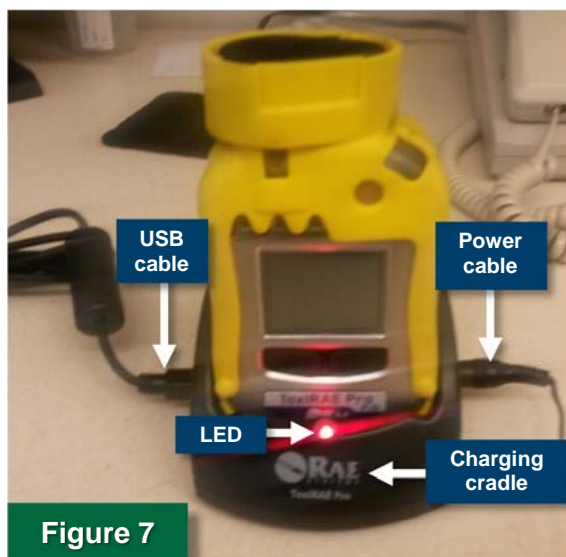

Figure 7
1. Plug the charging cradle into power using the included power cable and into a computer using the included mini-USB cable (Figure 7).